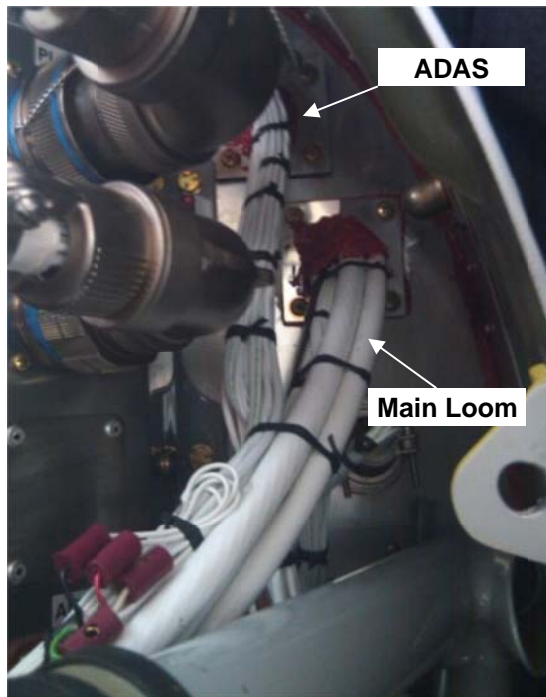

FIGURE 1 FIREWALL (MAIN LOOM AND ADAS)
- 1) Remove the upper engine cowl to get access to the wiring loom feed thru on the LH side of the firewall, (adjacent to the relay box, if fitted) (See Figure 1).
If a separate loom penetration is used for the ADAS or DAAM engine trend system (as shown in Figure 1), carry out the procedures A) or B) below: